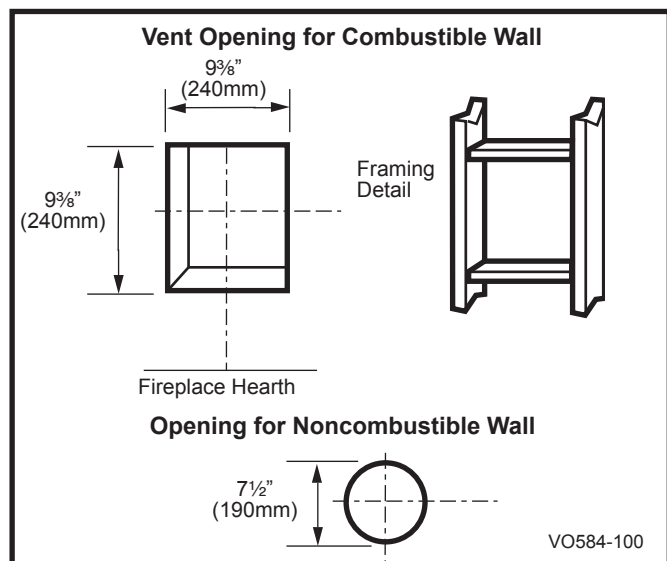

Fig. 18 Locate vent opening on wall.
Locate vent opening on the wall. It may be necessary to first position the fireplace and measure to obtain hole location. Depending on whether the wall is combustible or noncombustible, cut opening to size. (Fig. 18)
Combustible Walls: (Fig. 18) Cut a 9 $\frac{3}{8}$ "H x 9 $\frac{3}{8}$ "W (240 x 240 mm) hole through the exterior wall and frame as shown.
Noncombustible Walls: (Fig. 18) Hole opening must be 7 $\frac{1}{2}$ " (190 mm) in diameter.
1. Establish vent hole through the wall. (Fig. 18)